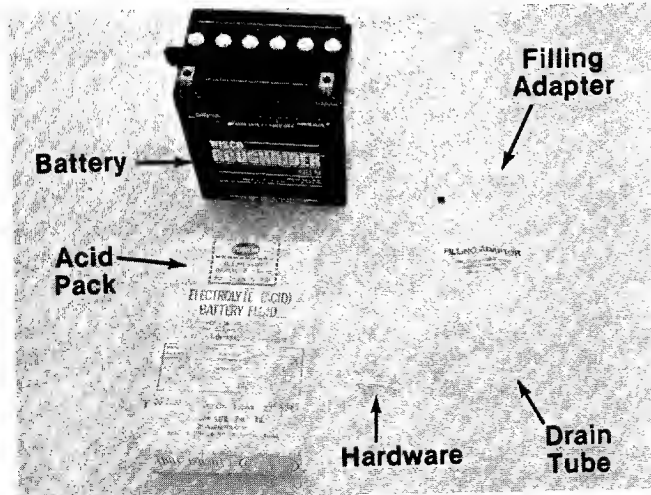

FIGURE 5.
1. Upon opening the battery pack, you should receive acid pack, battery, drain tube, filling adapter and hardware. See figure 5